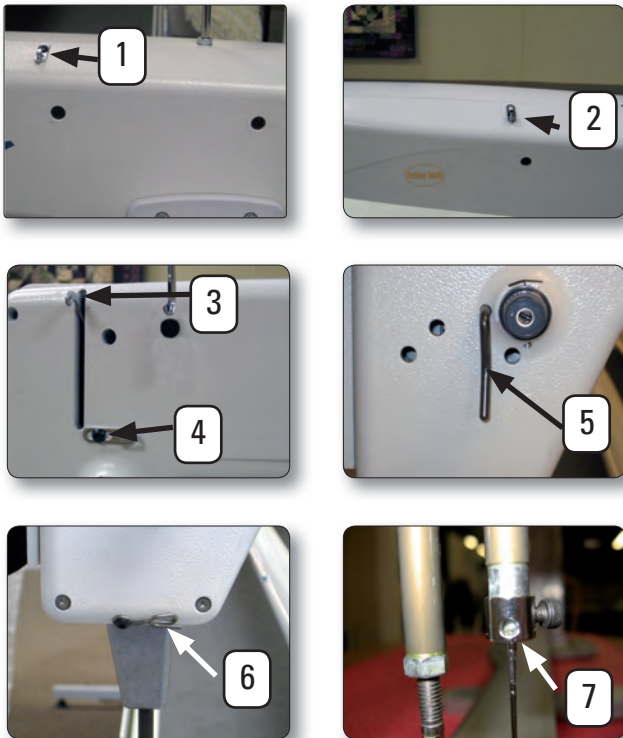

Figure 1.3
3. Check/Inspect: Test the condition of the thread guides 1, 2, 3, 4, thread stirrup 5, thread guide 6 and needle bar thread guide 7 for any abrasions, cuts, or electroplating blistering. Test each guide by flossing it with thread, left to right and front to back in all directions, checking for any sharp defects that may damage or cut the thread. Replace any damaged parts. (Figure 1.3) (2 mm and 2.5 mm handle Allen)